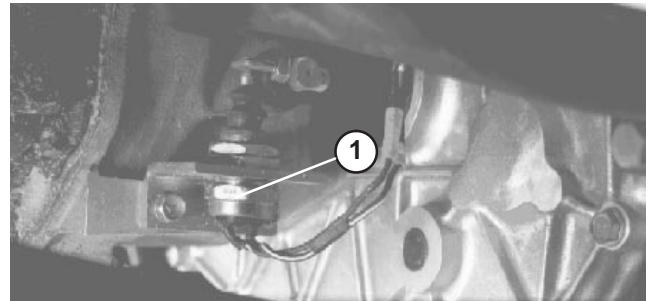

Figure 44
7. Recheck clutch safety switch adjustment (Fig. 44). Engine must not crank unless clutch pedal is $1.25'' \pm .12''$ from floor. If an adjustment is required, loosen switch jam nuts and adjust up or down.